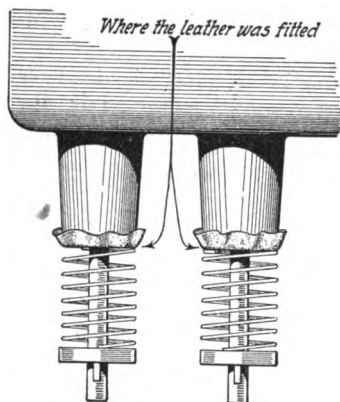
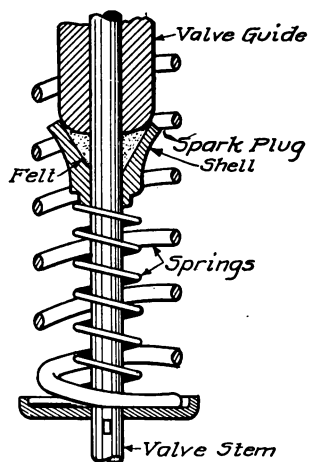

Fig. 184. Method of Curing Valve-Guide Leak Quickly and Cheaply
Fig. 185. Remedy for Leaky Valve-Stem Guide, Using Old Spark Plug and Felt
shown in Figs. 184 and 185. A simple leather washer with a small hole through the center, which fits tightly over the valve stem, is pressed up around the outside of the guides, as shown in Fig. 184. This simple repair was very effective, and the leather washers lasted an
**Valve Guides.** The valve stem must be a tight fit in the guide, otherwise air will leak through into the combustion chamber and dilute the mixture, or the compression will leak out, or both. Any valve leak will affect the running of the motor, so it should be stopped at once. Two methods of temporarily remedying small leaks are shown in Figs. 184 and 185. A simple leather washer with a small hole through the center, which fits tightly over the valve stem, is pressed up around the outside of the guides, as shown in Fig. 184. This simple repair was very effective, and the leather washers lasted an astonishingly long time. The other method, Fig. 185, shows practically the same result arrived at differently. In this case, old spark-plug shells, with considerable recesses in the center part, were turned down so as to fit around the bottom of the guides. These recesses were packed with felt or other available packing, care being taken to pack the recesses tightly. Then the whole thing was held up in place by a lighter spring put inside the main valve spring. By adding a few drops of oil to the packing now and then to keep it soft, it lasts almost indefinitely.